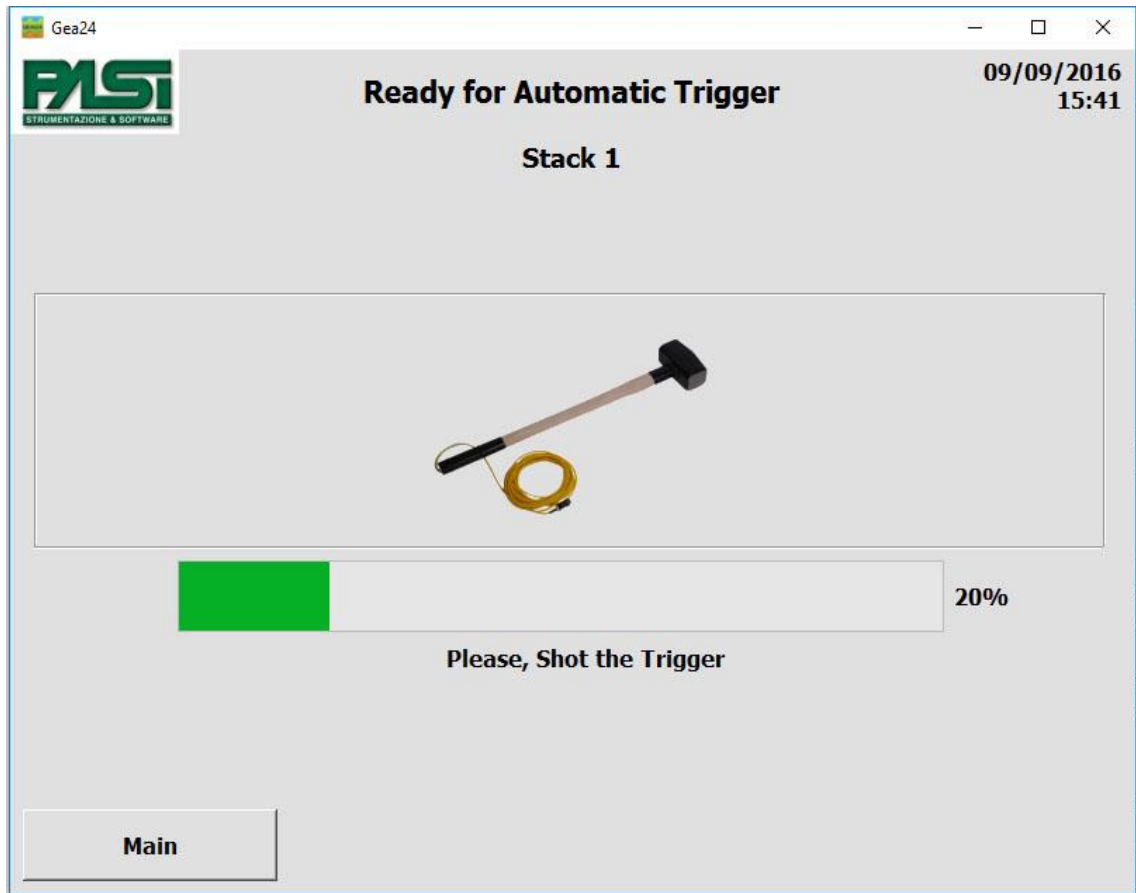

FIGURE 12 - AUTOMATIC TRIGGER WINDOW
- Acquisition - Exits the noise monitoring function and moves to the acquisition start screen waiting for the trigger (see section 6.4.2.1 and figure 12) or, if you are creating a multiple passive acquisition, on the SEG2 parameter management screen (6.5.1);